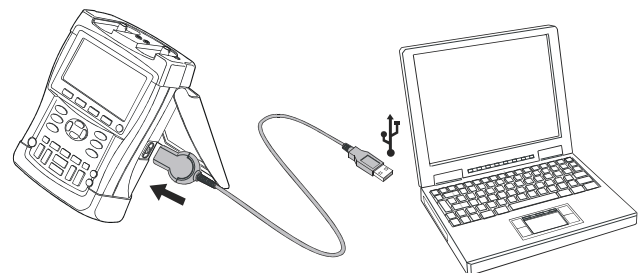

Figure 35. Connecting a Computer
- Use the Optically Isolated Adapter/Cable (USB: OC4USB; RS-232: PM9080) to connect a computer to the OPTICAL PORT of the test tool. (See Figure 35.)